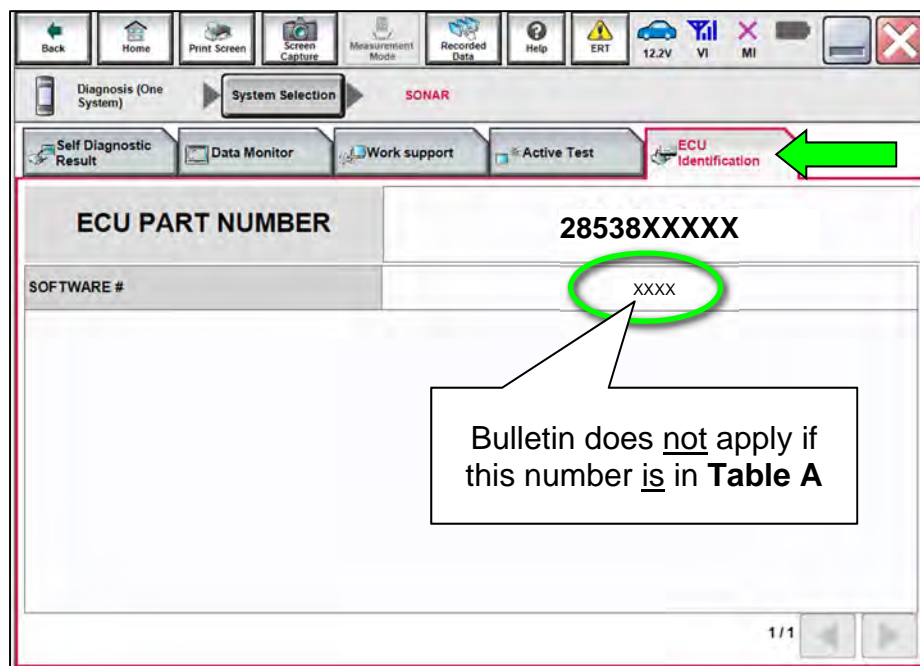

Figure 5
16. Confirm the current **SOFTWARE #** (Figure 5). See **Table A** (below) for model specific **SOFTWARE #**.